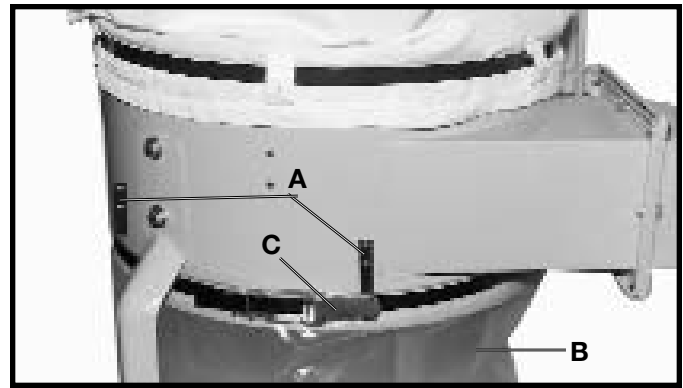

Fig. 26
4. Pull up on each retaining clip (A) Fig. 26, and insert the dust collection bag (B) underneath each retaining clip to hold the dust collection bag in place.
5. Place the locking clamp (C) Fig. 26 around dust collection bag and dust collector drum and lock in place.